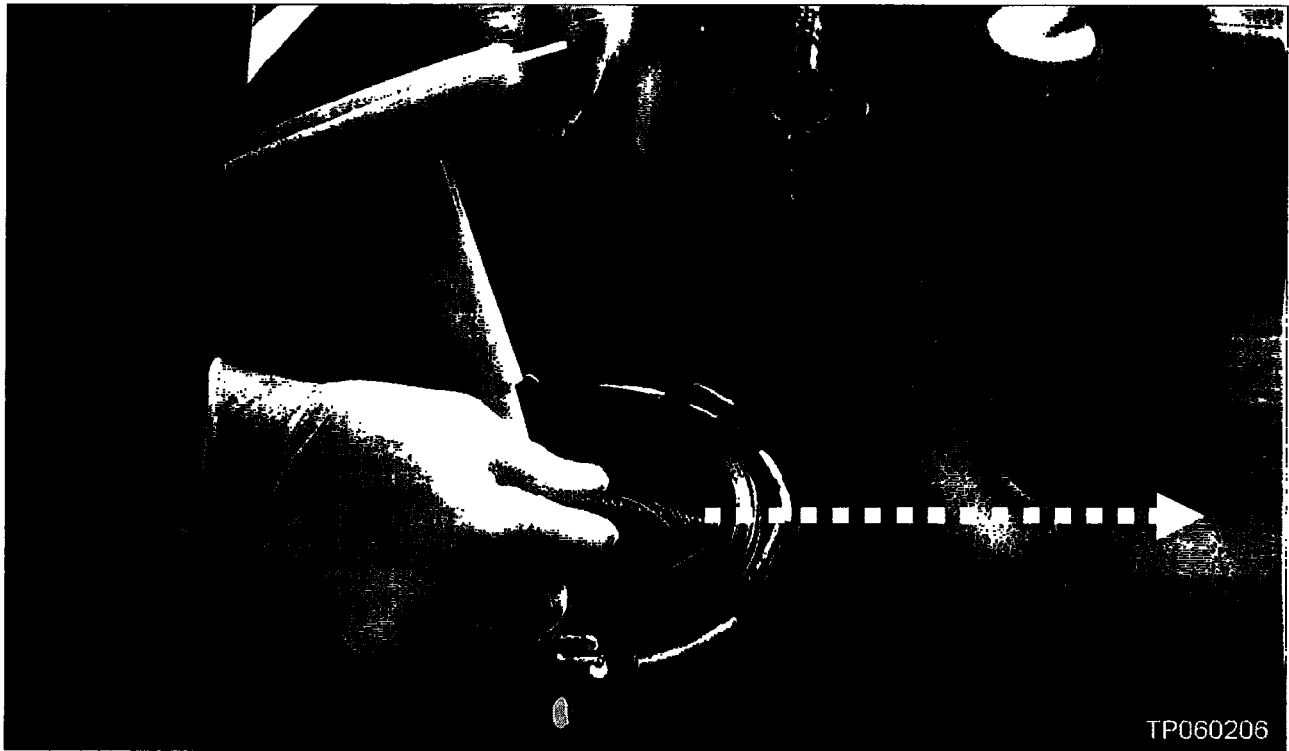

Figure 65
23. Install the sub fuel level sensor half way, then feed the fuel line across to the other side of the new tank (see Figure 65).